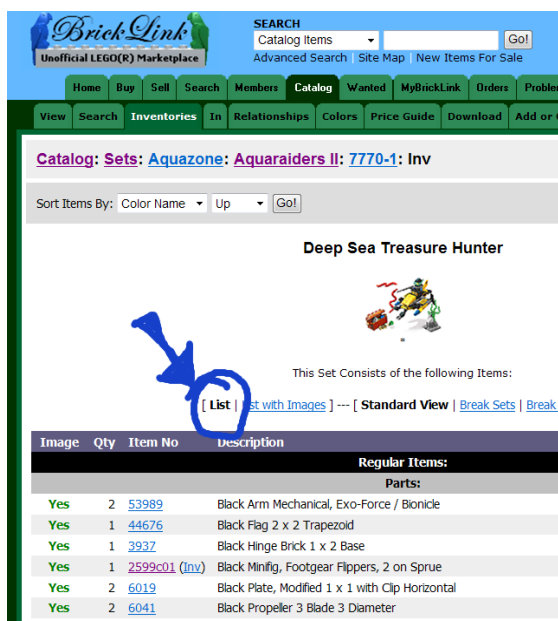

Figure 9 - IMPORTANT - you must switch to LIST view in BrickLink
2. Go to www.bricklink.com and find the set for which you want to import the brick list. IMPORTANT – make sure you select the List view so that the part list is displayed WITHOUT images. (Figure 9)